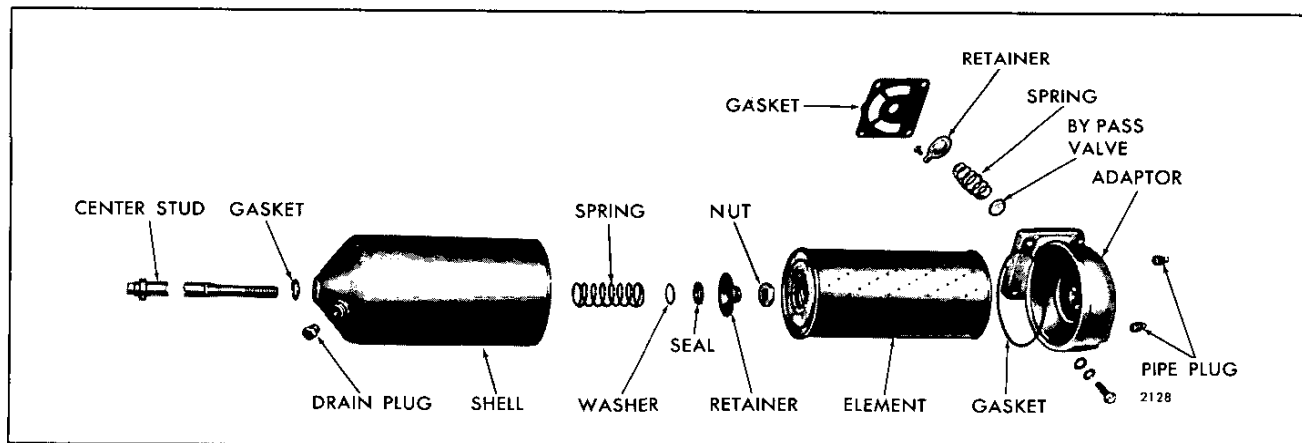

Fig. 5 - Full Flow Oil Filter Details and Relative Location of Parts
1. Remove the four bolts and washers and detach the filter adaptor or filter junction housing from the oil cooler adaptor (Fig. 5).